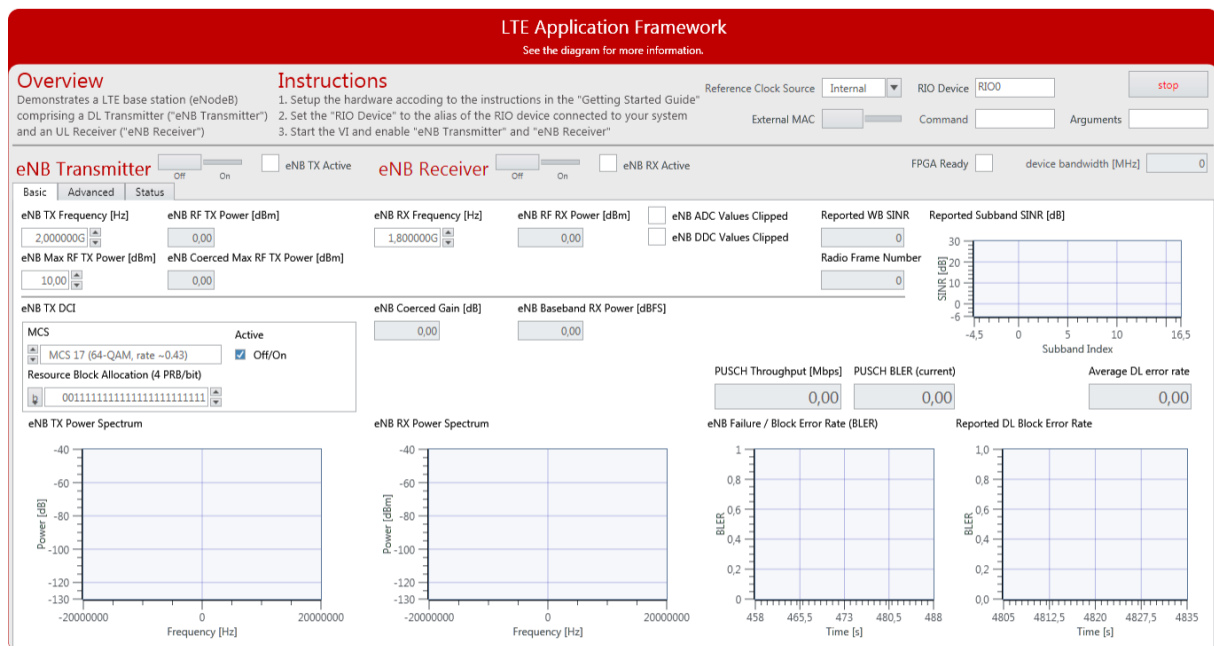

Figure 15 Front Panel of LTE Host eNodeB.gvi
- e. Within that project, open the LabVIEW top-level host VI for the eNodeB operation mode, **LTE Host eNodeB.gvi**. The front panel of this VI is shown in Figure 15.